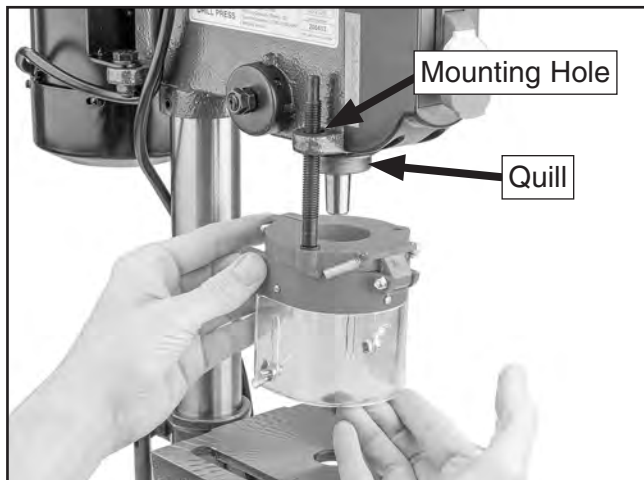

Figure 6. Inserting depth rod through mounting hole.
9. Close guard and insert depth rod through mounting hole until guard fits around drill press quill (see **Figure 6**).